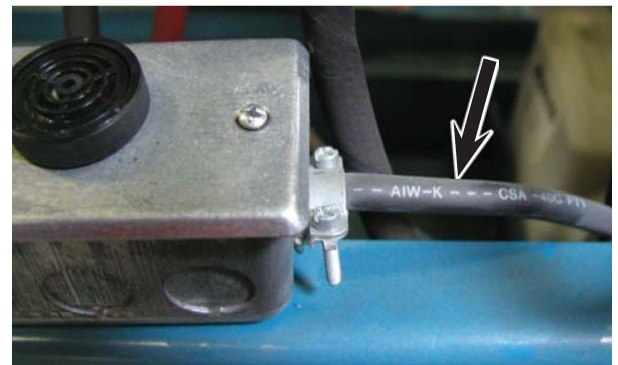

FIGURE 5
6. Locate the 16-2 cable from the magnet alarm junction box (located on the rear mid rail) to the power unit, shown in Figure 5.